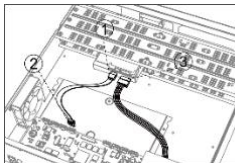

Figure 2-3 Connect Cable
**Step 3** Connect the data cable and power cable. Refer to Figure 2-3.